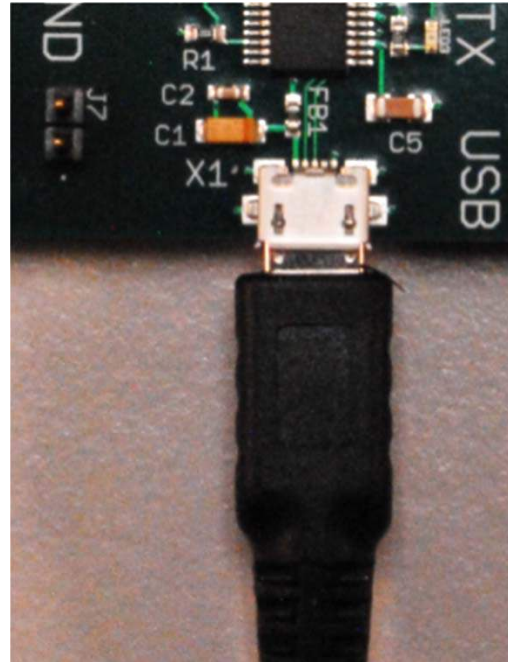

Figure 3. USB Cable Connection
2. Connect the USB cable from the PC to the baseboard, as shown in Figure 3. This step creates two virtual COM ports on the PC that are used later in the application example.